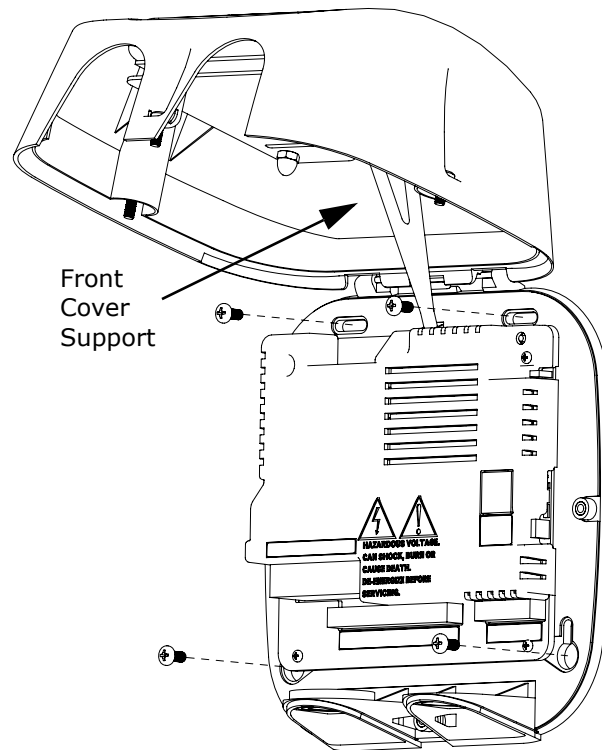

Figure 3.1: Shark Submeter with Cover Open: see WARNING! on previous page
2. **With the submeter power off**, open the top of the submeter. Use the front cover support to keep the cover open as you perform the installation (see Figure 3.1).